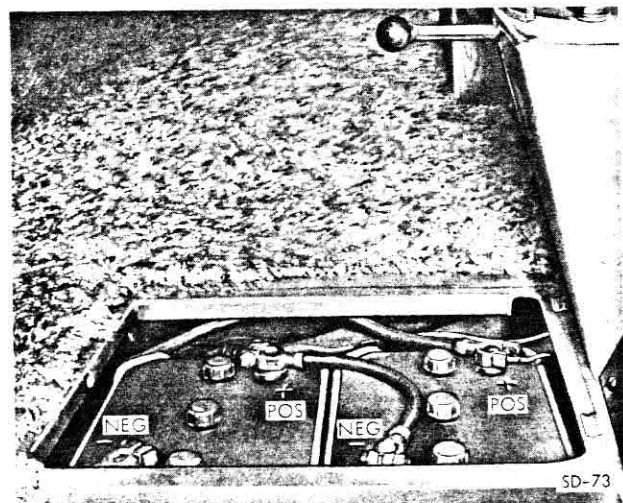

Figure 39-10. Domestic Batteries
(7) Install two 6 VDC replacement batteries in the battery compartment. Position replacement batteries with positive and negative posts as shown in figure 39-10.
(8) Install hold-down brackets over batteries and secure with lockwashers and nuts on hold-down bolts; torque nuts to approximately 3 foot-pounds.